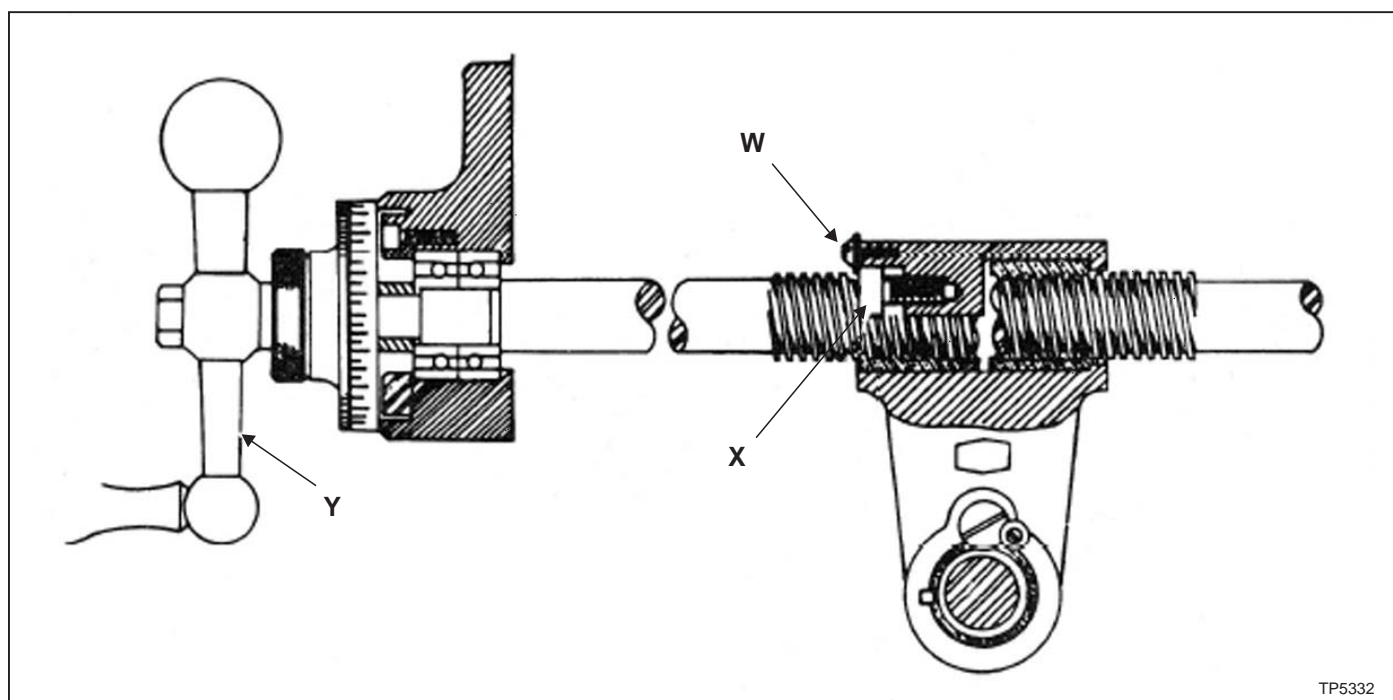

Figure 3.13 - Backlash Adjustment
2. Withdraw "W", Figure 3.13, half a turn.